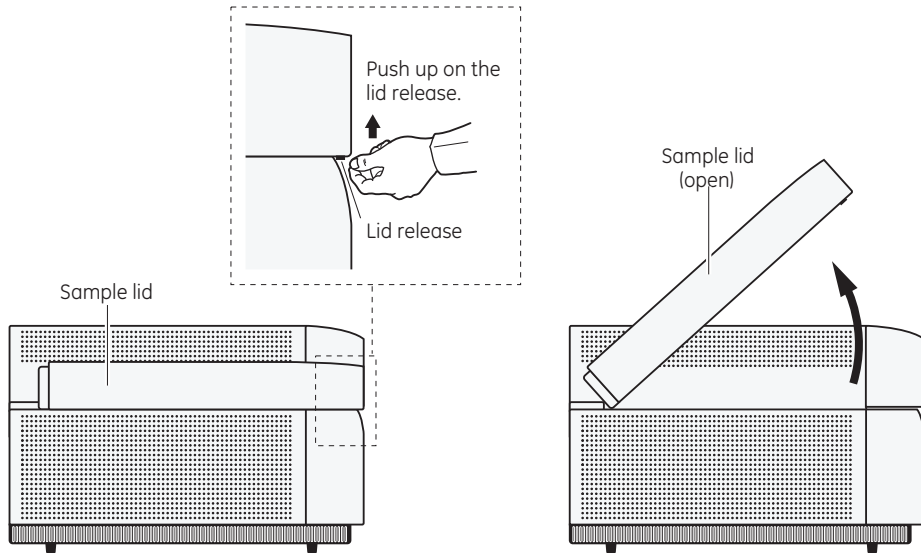

Fig 6-1. Opening the sample lid.
- 1 Push up on the lid release under the center front of the sample lid until the lid opens (fig 6-1).
- 1 If the sample lid is not already open, push up on the lid release under the center front of the sample lid until the lid opens (fig 6-1).